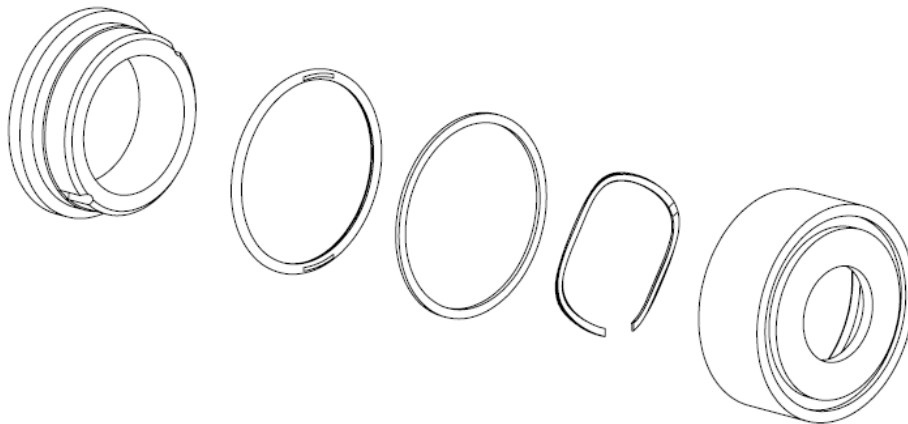

Figure 14
6. Assemble the rotating half of the seal. The order of assembly can be seen in Figure 14. Insert the single seal spring into the seal driver. The single seal spring is smaller than the rotating double spring. Next insert the backup ring. The backup ring may need to be pushed in. Insert the single rotating seal O-ring then insert the single rotating seal. Be sure to line up the slots in the rotating seal with the pins in the seal driver.